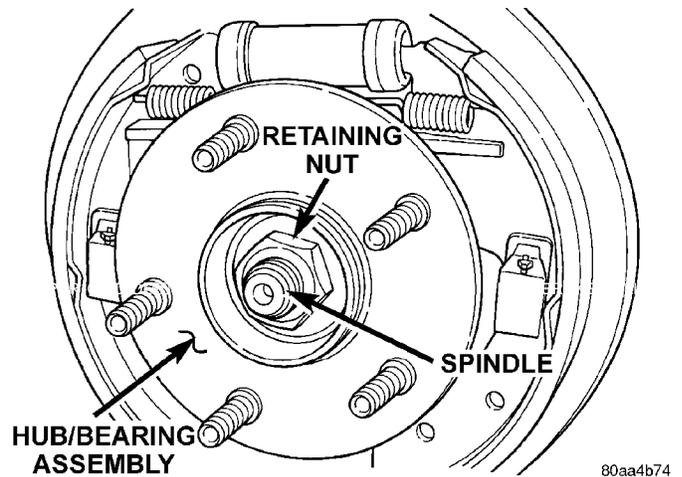
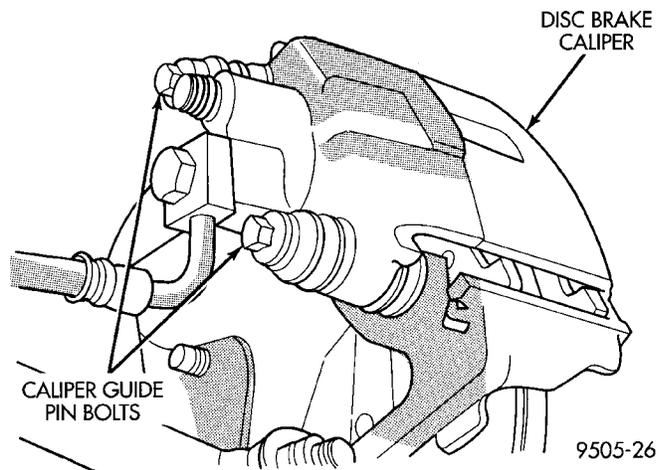

Fig. 99 Hub/Bearing Assembly Retaining Nut
Fig. 100 Caliper Guide Pin Bolts
(5) Remove the retaining nut (Fig. 99) mounting the hub/bearing to the rear spindle.
(6) Remove the hub/bearing from the rear spindle by pulling it off the end of spindle by hand.
(1) Position hub/bearing assembly on rear spindle.
(2) Install a **new hub nut** (Fig. 99) and tighten to a torque of 217 N-m (160 ft. lbs.).
(3) Install the dust cap, on the hub/bearing using a soft faced hammer.
(4) On drum brake equipped vehicles, install the brake drum on the hub/bearing. On vehicles equipped with rear disc brakes, install the rotor on the hub/bearing.
(5) On disc brake equipped vehicles install the disc brake caliper on the adapter. Install the 2 guide pin bolts (Fig. 100) mounting the disc brake caliper to the adapter. Tighten the guide pin bolts to a torque of 22 N-m (192 in. lbs.). Refer To Rear Disc Brake Service in this group of the service manual for the required caliper installation procedure.